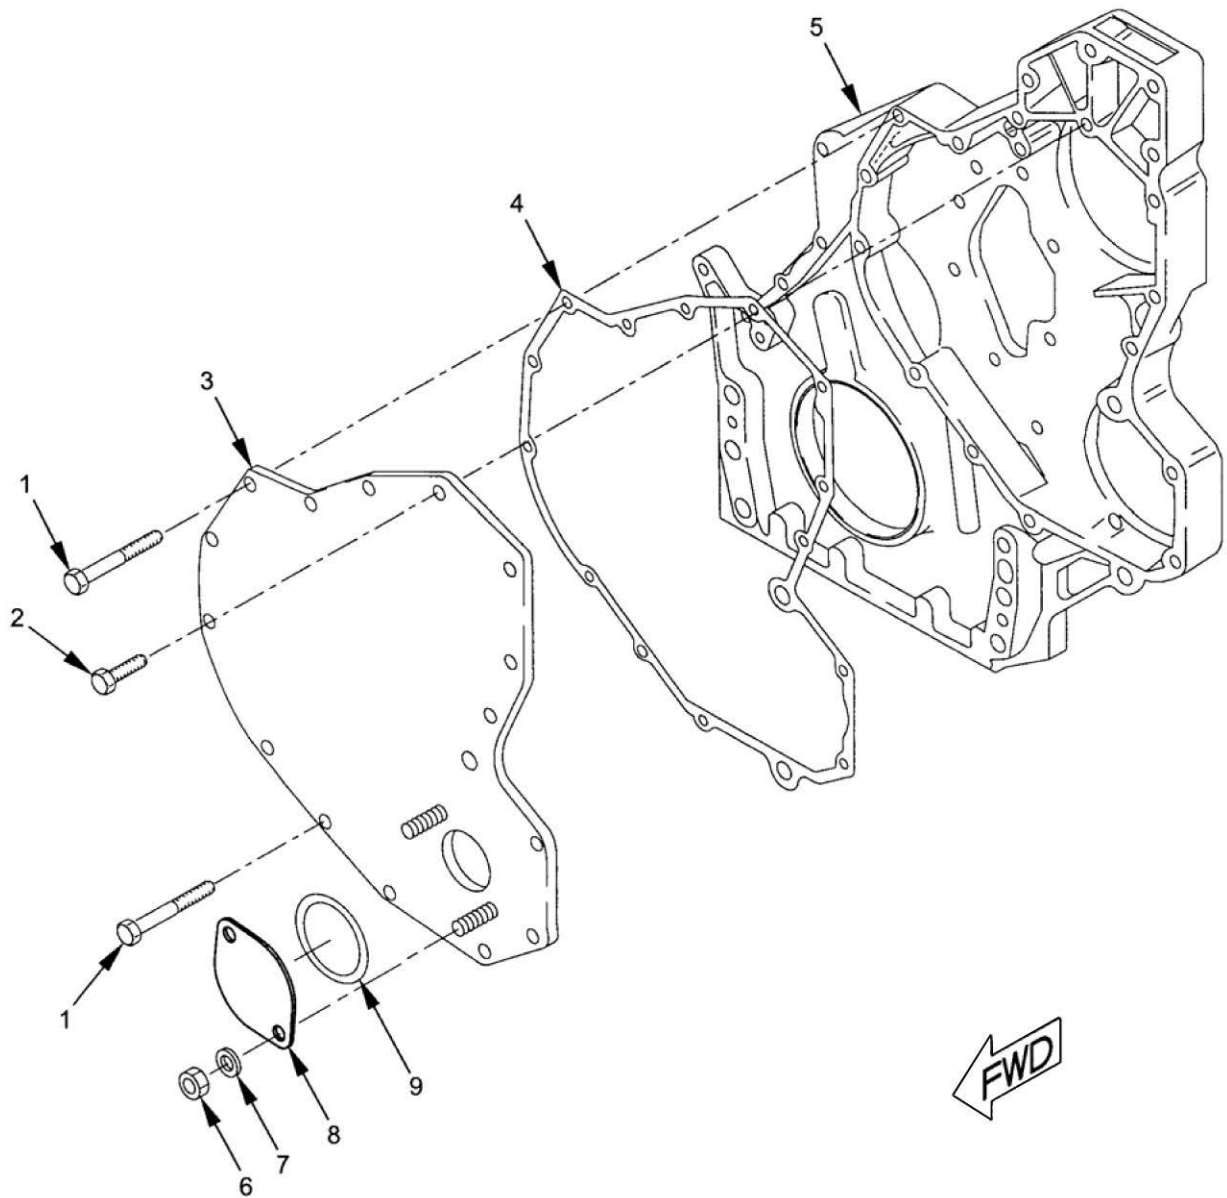

Figure 1. Front Cover.
1. Remove two screws (Figure 1, Item 1), eleven bolts (Figure 1, Item 2), front cover (Figure 1, Item 3), and gasket (Figure 1, Item 4) from front housing (Figure 1, Item 5).
2. Remove two nuts (Figure 1, Item 6), washers (Figure 1, Item 7), nuts (Figure 1, Item 8), and seal (Figure 1, Item 9).
1. Install seal (Figure 1, Item 9), cover (Figure 1, Item 8), two washers (Figure 1, Item 7), and nuts (Figure 1, Item 6) on front cover (Figure 1, Item 3).
2. Install gasket (Figure 1, Item 4) and front cover (Figure 1, Item 3) on front housing (Figure 1, Item 5) and secure with eleven bolts (Figure 1, Item 2) and two screws (Figure 1, Item 1).